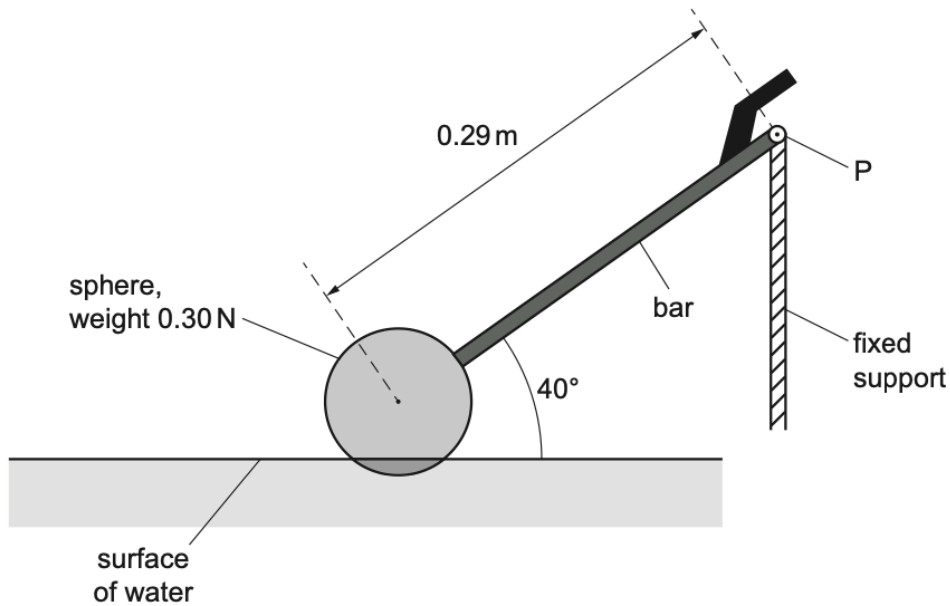

Fig. 3.1 (not to scale)
- 14 (b) A hollow plastic sphere is attached at one end of a bar. The sphere is partially submerged in water and the bar is attached to a fixed vertical support by a pivot P, as shown in Fig. 3.1.
- (c) The system shown in Fig. 3.1 is part of a mechanism that controls the amount of water in a tank.